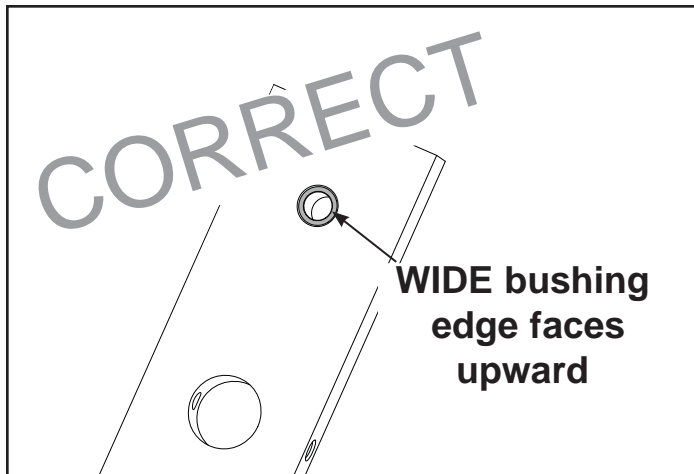

Figure 7A
- H. With an assistant, carefully install each weight plate one at a time. **NOTE:** When installing weight plates, position plates so wide edges of bushing face upward and narrow edges of bushing face downward. See Figures 7A and 7B.